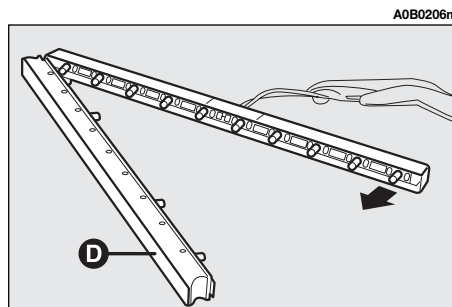

fig. 52
- Remove the transparent cover (**D-fig. 52**) and replace the bulb concerned.